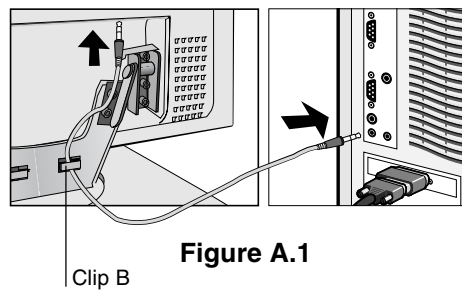

Figure A.1
2. Remove connector cover and cable cover. Connect the audio cable to “AUDIO INPUT” on the back of the monitor and the other end to the “Audio out” terminal of the computer. Place the Audio cable under Clip B (**Figure A.1**).